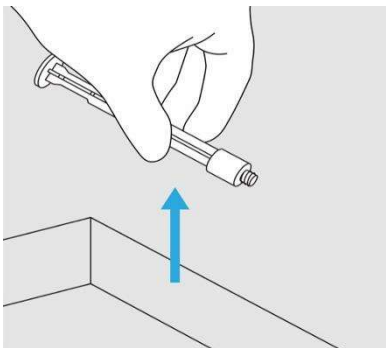

Figure 5: Remove plunger
6. Remove the plunger (part 2) from the package. (Figure 5)